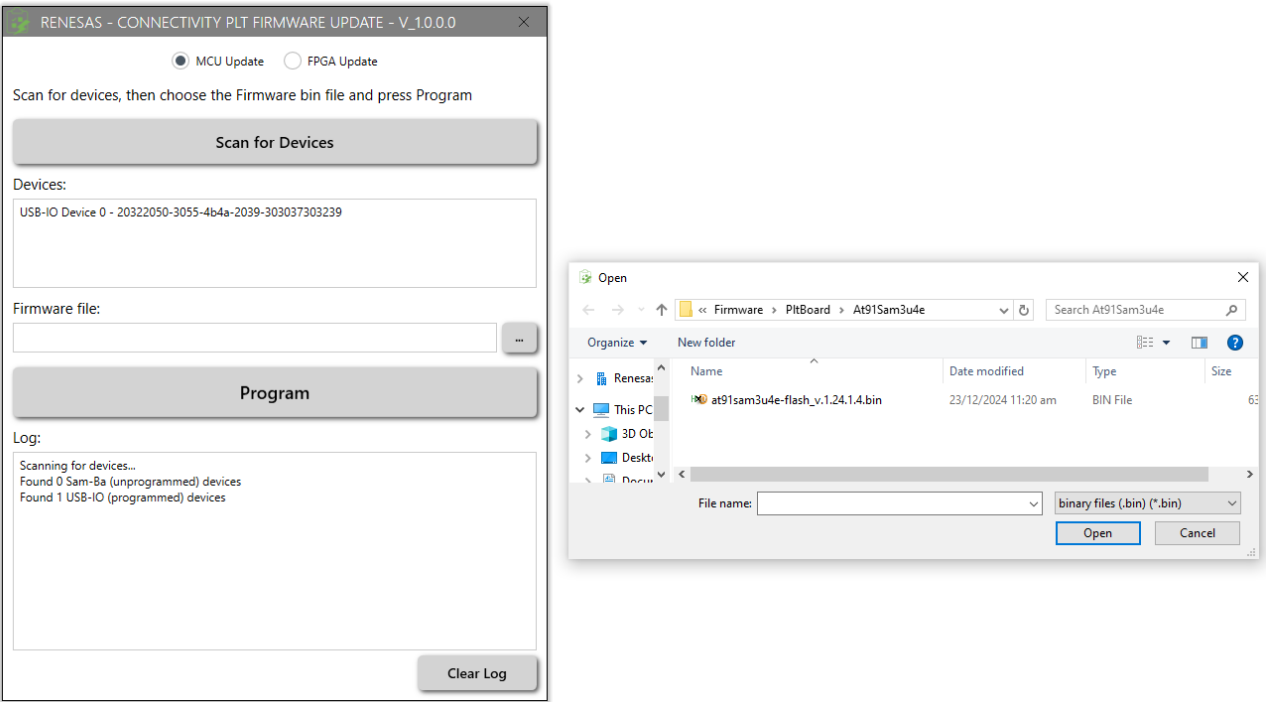

Figure 114. Firmware update file browse
3. Next specify the **Firmware file**, click the browse button (three dots), and select the appropriate file to flash, see Figure 114.